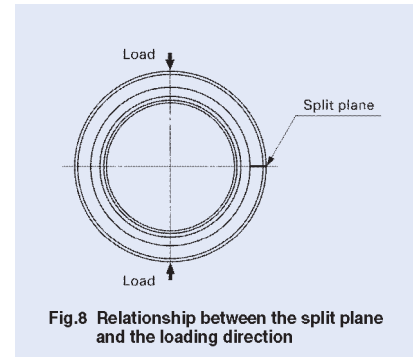

Fig.8 Relationship between the split plane and the loading direction
- ① When mounting Spherical Bushings, pay attention to the location of the split plane of the outer ring. Set the split plane at right angles to the direction of load to avoid the application of load to the split plane as shown in Fig. 8.
- ② The shoulder dimensions of shaft and housing are shown in the dimension tables.